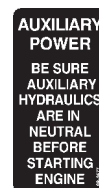

Figure 19
1. Remove and discard decal number 98-4677 (Fig. 19) from the frame near the auxiliary hydraulics lever.